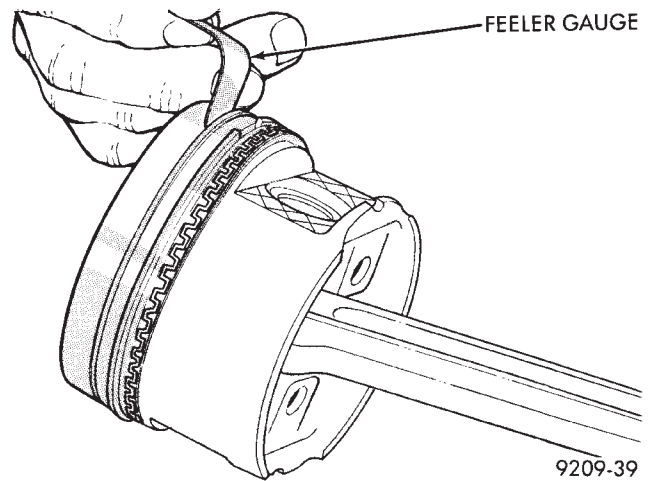

Fig. 10 Measuring Piston Ring Groove Clearance
- (2) Check piston ring to groove clearance: (Fig. 10). Refer to specification (Fig. 12).